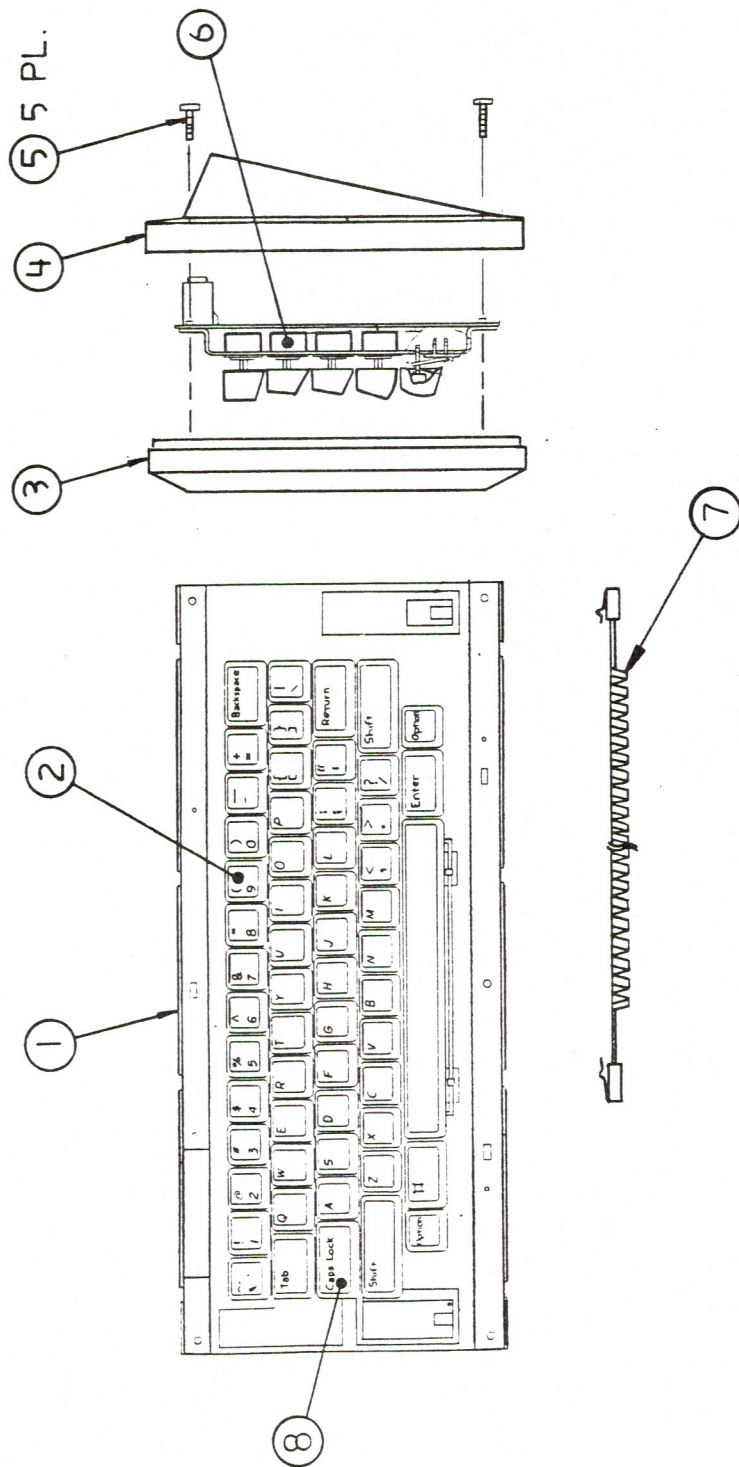

FIGURE 4
□ MACINTOSH – KEYBOARD ASSEMBLY (Figure 4)